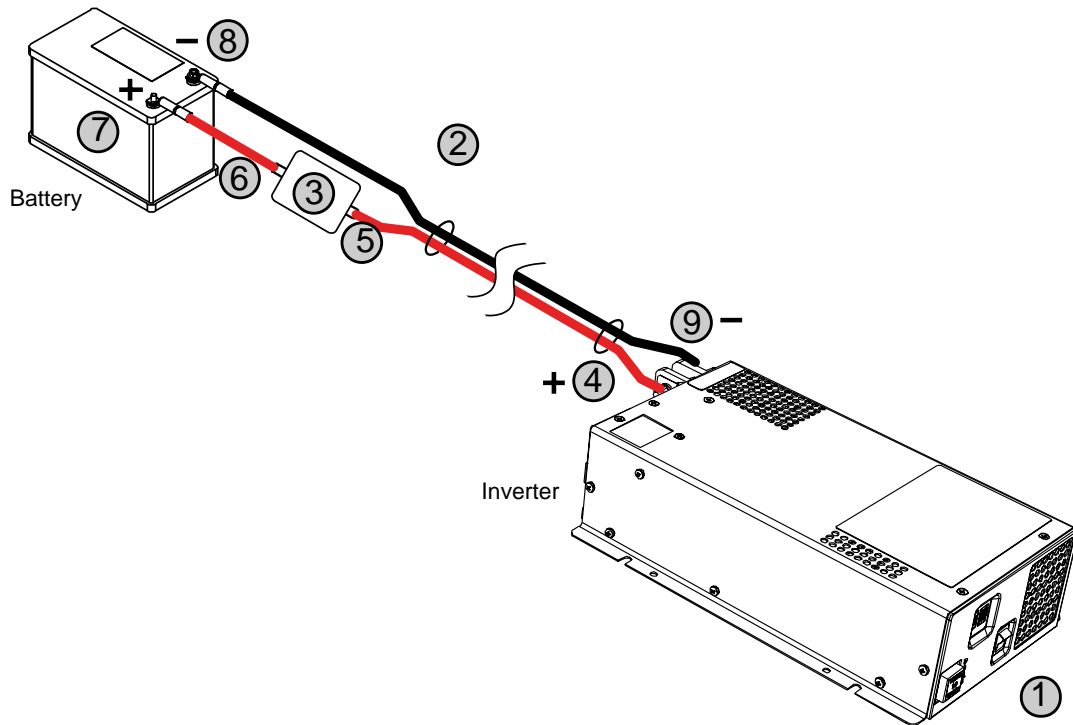

Figure 2-5 Connection Order for DC Cables
Refer to Figure 2-5, “Connection Order for DC Cables” on page 2-16.
- To reduce the chance of interference, keep the positive and negative cables close together—ideally, tied together at regular intervals as shown in Figure 2-5, “Connection Order for DC Cables” on page 2–16.
Connect the DC cables as shown in Figure 2-5, in the order shown by the numbers.